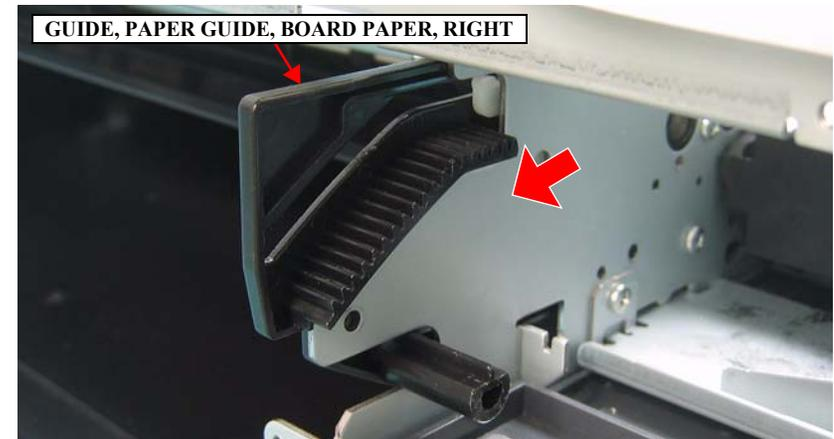

Figure 4-70. Pulling out the GUIDE, PAPER GUIDE, BOARD PAPER, RIGHT
8. Pull out the GUIDE, PAPER GUIDE, BOARD PAPER, RIGHT toward you as far as it will go. *See Figure 4-70.*